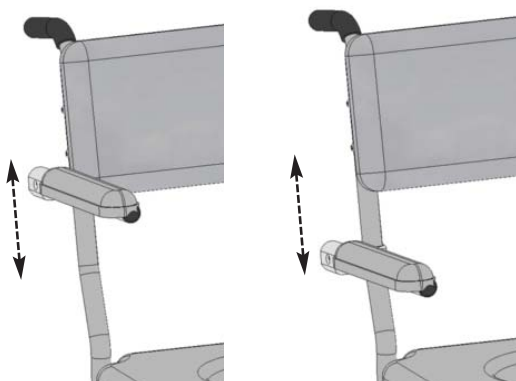

Figure 12
**D Cantilever Arms:** The cantilever arms can be adjusted to the desired height by completing the following steps: Loosen the socket head cap screws on the arm clamps, raise/lower the arms accordingly, then re-tighten the socket head cap screws (Refer to Figure 12). For safety purposes, the cantilever arms lock in the down position. To switch the arms to the up position, simply push the arms toward the back of the chair (releasing the locking mechanism) and lift up (Refer to Figure 13).